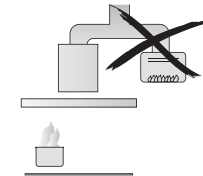

Fig. 1
-  The exhaust from the rangehood must not be discharged into any heating flue, which may carry combustion products from other sources.(Fig.1)